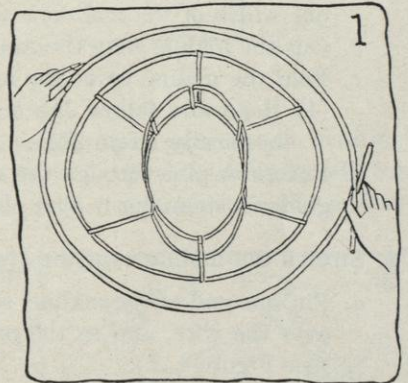

FIG. 1.
- a. Get the circumference of the flange, by holding a steel wire so that it extends the correct amount beyond the edge of the brim, or the headsize (see Figure 1).
- c. Join wire with a clasp (see Figure 1 of Job 20, page 83). The length of this wire will be the length of the maline strip that is needed.